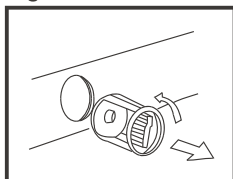

fig.2
2. Turn and remove the filter in a counter-clockwise direction as shown in figure 2.